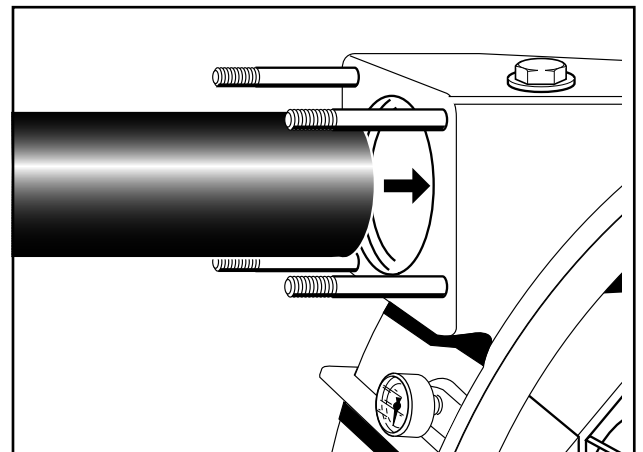

Fig. 18 Position dof vacuum bore
3. Slightly lubricate one end of the pump hose with lubricating fluid and push it into the suction port of the pump (Fig. 18), until the hose abuts. Place a small amount of lubricating fluid in the vacuum channel. Please make sure that the hose bore is aligned correctly.
(narrow) (Fig. 18). Insert the other end into the angle fitting and fasten it with the spigot nut.